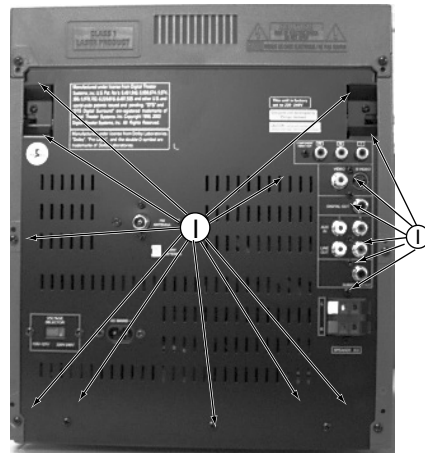

Figure 1
- 1) Loosen 16 screws 'I' to remove the Rear Panel figure 1.